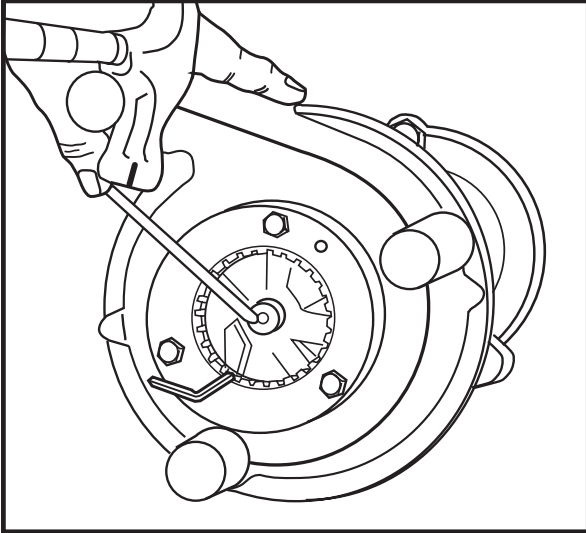

Fig. 2
1. Hold impeller from moving by placing small allen wrench or screwdriver in shredding ring slot and remove socket head screw and washer from pump shaft. See Figure 2.